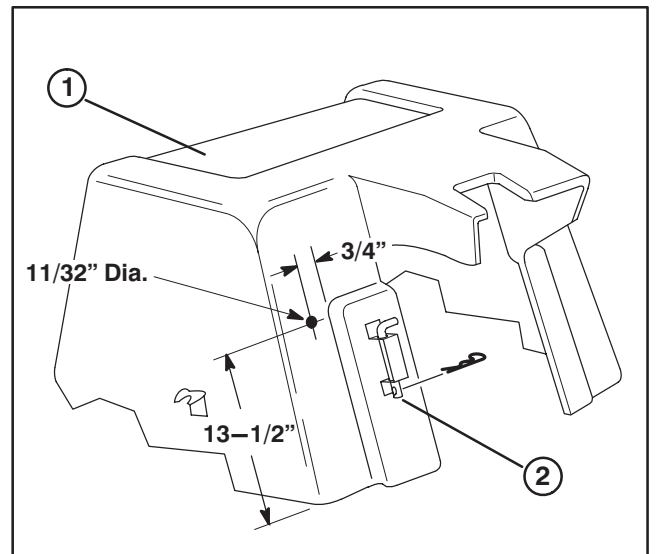

Figure 6
2. Using dimensions shown in figure 6, locate, mark and drill a 11/32" (8.7 mm) dia. hole in right front of coring head cover. Repeat procedure on left front of cover.